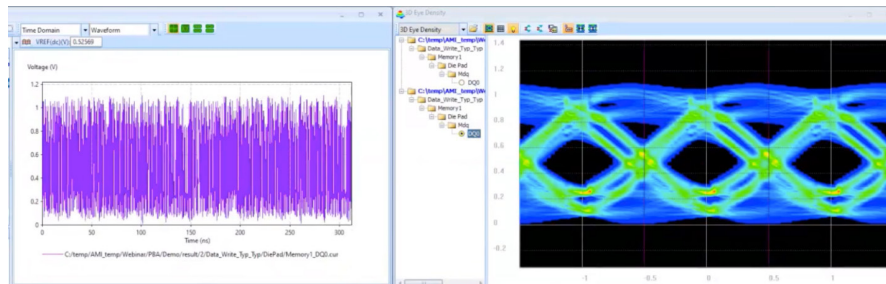

Figure 23: Simulation results for Example 2 with a faster data rate of 6.4Gbps
- ▶ The results in Figure 23 show that the eye has definitely closed down some